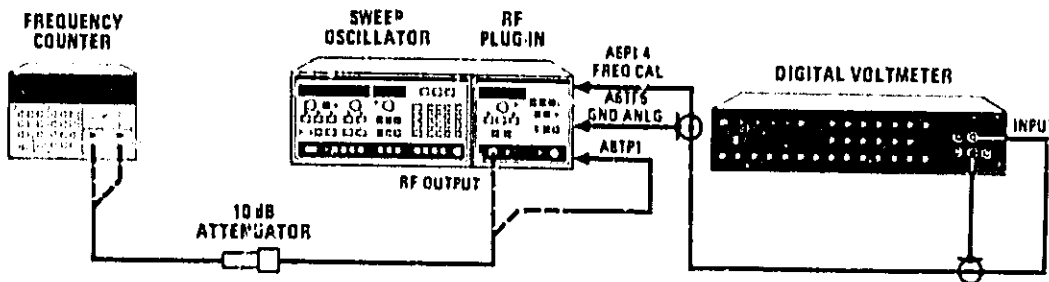

Figure 5-8. Test Setup for Frequency Accuracy Adjustments
YO Driver Board adjustments should be avoided if possible. Set up equipment as shown in Figure 5-8 and perform step 23 in Paragraph 5-17 to check frequency accuracy and sweep linearity across the band. If frequencies are within ± 5 MHz tolerance, do not make these YO Driver Board adjustments.
1. Press 8350A INSTR PRESET, set STOP frequency to 2 GHz, and press 83522A AMPTD MKR. Connect Frequency Counter to A8TP1 through the 1:1 probe (Figures 5-8 and 5-9) and check that output frequency is $50.000 \text{ MHz} \pm 250 \text{ Hz}$. If not, adjust A8C4 50 MHz Oscillator for correct frequency. If necessary, select A8C3 for correct adjustment range. Refer to Adjustment paragraph 5-27.
2. Connect equipment as shown in Figure 5-8 with frequency counter and 10 dB attenuator connected to RF OUTPUT. Connect the DVM to A6P1 pin 4 (FREQ CAL) and common to A6P5 (GND ANLG).